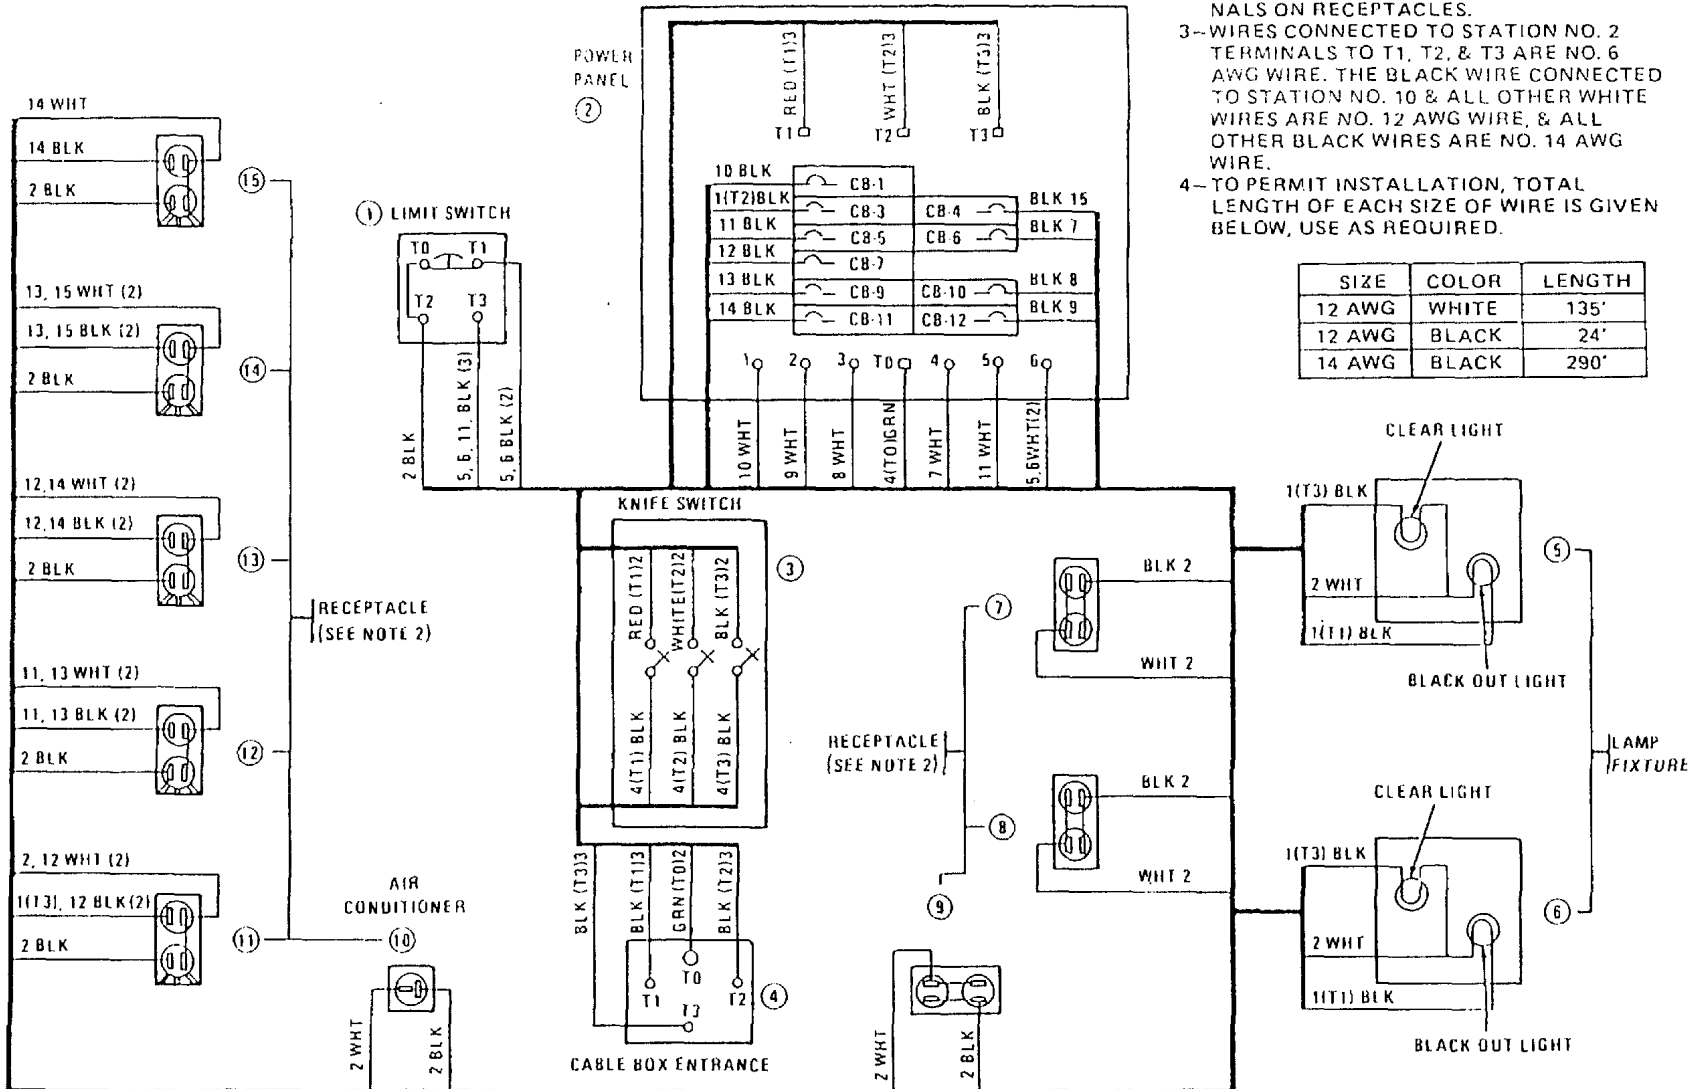

Figure 6-1. Wiring Diagram, Shelter S-281/G
- (1) Connect lead wires to receptacle.
- (2) Attach receptacle to electrical duct using two screws (2).
- (3) Install receptacle cover plate (1) using two screws (2).
- (4) Set appropriate circuit breaker to ON and test new receptacle. See figure 6-1.
**6-1 SCOPE.** The information in this chapter is limited to wiring diagrams (figures 6-1 and 6-2) of the S-281/G electrical circuits. Refer to TB 43-0124 for